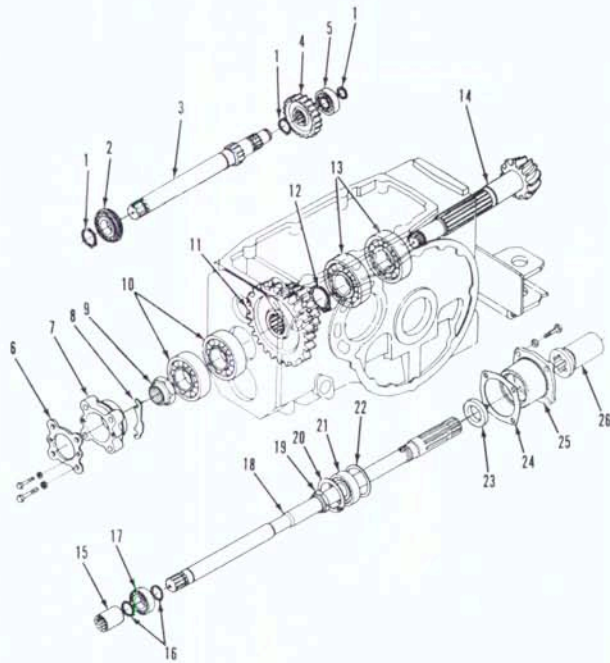

Fig. 105—Exploded view of gears and shafts located in rear transmission housing on Model L285.
76. OVERHAUL. To disassemble rear transmission housing, proceed as follows: Remove rear snap ring from range countershaft (3—Fig. 105), then tap shaft forward out of housing and remove gear (4). Inset a brass drift into differential ring gear teeth to prevent bevel pinion shaft (14) from turning, then remove locknut (9). Remove differential assembly as outlined in paragraph 91. Remove front bearing case mounting cap screws, then tap bevel pinion shaft rearward and remove shaft and gear (11) from housing. Remove snap ring and press pinion shaft